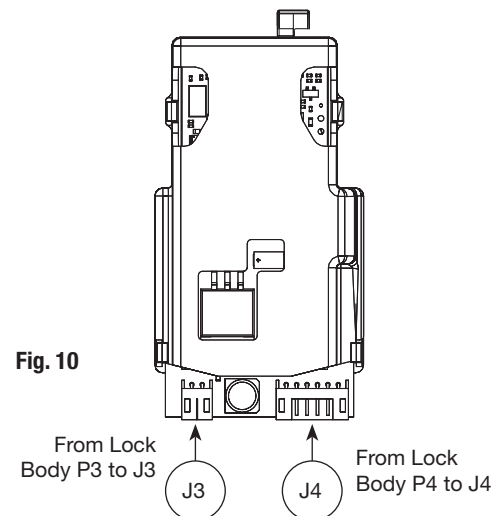

Fig. 10
- a. Connect P3 (2-pin connector) from lockbody to J3 on module (Fig. 10).
- b. Connect P4 (6-pin connector) from lockbody to J4 on module (Fig. 10).